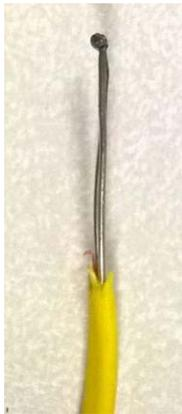

Figure 4: Thermocouple with both wires welded.
10. Check with an amplifying glass the uniformity of the welded part (see Figure 4), there must remain a sphere of constant radius but small deformations are accepted.